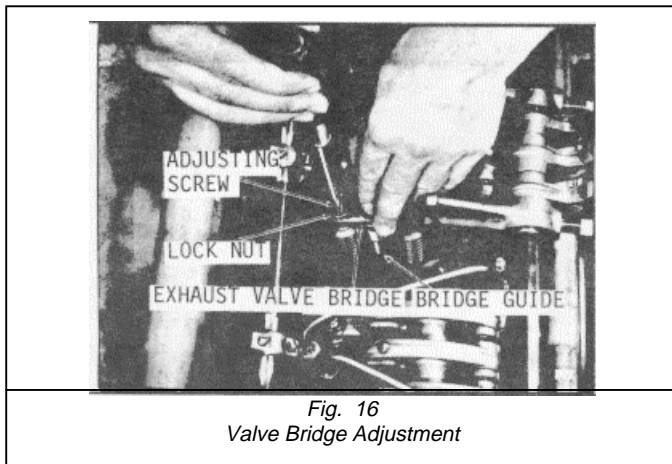

Fig. 16
- (2) Install the valve bridge on the valve bridge guide.
- (3) While firmly pressing straight down on the pallet surface of the valve bridge, turn the adjusting screw clockwise until it just touches the valve stem. Then turn the screw an additional 1/8 to 1/4 turn clockwise and tighten the lock nut finger tight (Fig. 16).
- (4) Remove the valve bridge and place it in a vise. Use a screw driver to hold the adjustment screw from turning and tighten the lock nut to 20-25 ft/lb. (27-34 N.m) torque.
- (5) Lubricate the valve bridge guide and the valve bridge with engine oil.
- (6) Reinstall the valve bridge in its original position.
- (7) Place a .0015" feeler gage (J 23185) under each end of the valve bridge or use a narrow strip cut from .0015" feeler stock to fit in the bridge locating groove over the inner exhaust valve. While pressing down on the pallet surface of the valve bridge, both feeler gages must be tight. If both of the feeler gages are not tight, readjust the adjusting screw as outlined in steps 3 and 4.
- (8) Remove the valve bridge and reinstall it in its original position.
- (9) Adjust the remaining valve bridges in the same manner.
- (10) Swing the rocker arm assembly into position, making sure the valve bridges are properly positioned on the rear valve stems. This precaution is necessary to prevent valve damage due to mislocated valve bridges. Tighten the rocker arm shaft bracket bolts to the torque specified in SM1-63-70.0. After the cylinder head is installed and the valve bridges adjusted, proceed as follows: